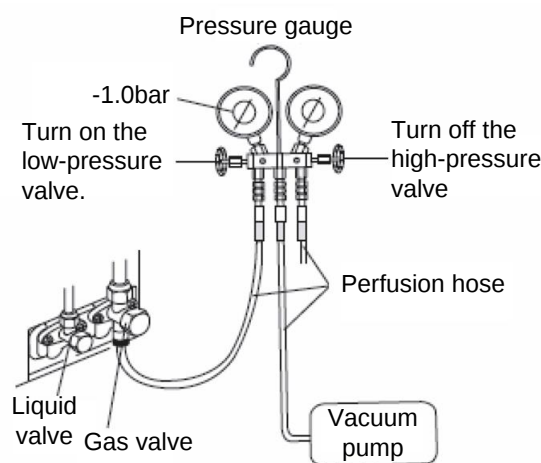

Figure 6-1 Vacuum pump connection
- (1) Connect the perfusion hose with the nozzle for perfusing refrigerant. (The gas valve and liquid valve must be turned off.)
- (2) Connect the perfusion hose with the vacuum pump, as shown in Figure 6-1.
- (3) Totally open the low-pressure valve on the pressure gauge.
- (4) Start the vacuum pump. After vacuumizing for at least 20 minutes, turn off the low-pressure valve and stop the vacuum pump when the pressure gauge indicates $-1.0 \times 10^5 \text{ Pa}$ (-76 cmHg). Keep it for 2 minutes. If the pressure value does not increase, it means that vacuumization and pressure maintaining succeeds. If the value increases, it means that air gets into the system. Check whether leakage exists and vacuumize again.
- (5) Remove the perfusion hose from the gas valve.
- (6) Totally open the valve pin from the gas valve and liquid valve.
- (7) Screw the fluoride injection mouth nut and tighten the valve caps for the liquid valve and gas valve.
- (8) Tighten the valve cap and use suds or leakage detector to check whether there is gas leakage at the connection point of the outdoor unit and water tank.